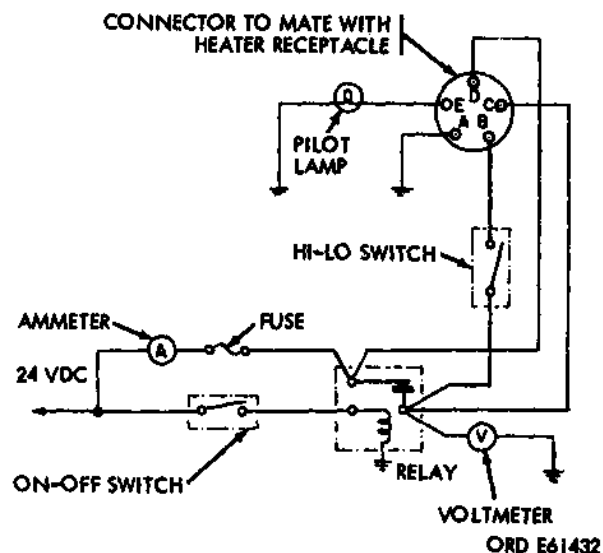

Figure 721. Test wiring set-up for 8420-C heater tests.
- (1) A source of 24 volts dc.
- (2) A suitable rack or cradle to support the heater during test with provision to dispose of the exhaust gases.
- (3) A test wiring setup similar to the one illustrated in figure 721.
- (4) A fuel tank and electric fuel pump to supply fuel under pressure to the heater.
- (5) A flowmeter, which should be installed in the fuel system to measure fuel flow while the heater is burning. If a flowmeter is not available, it is possible to remove the fuel control valve from the heater and test fuel by means of a glass graduate.
- (6) A strobe-light type of tachometer, to determine speed of the blower motor.
- (2) A suggested wiring diagram for the heater test panel is shown in figure 721. The control switches, meters, flowmeter, and voltage regulator should be mounted in a group on one panel so that all can be observed at one time. An electric timer is also useful, but a watch can be used instead.